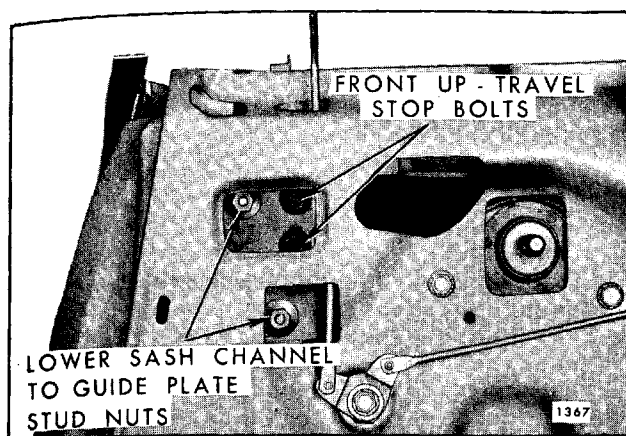

Fig. 7-140—Rear Door Window Removal - 68069-68169 Styles
4. While supporting glass by pressing it rearward into ventilator division channel, remove lower sash channel to guide plate attaching nuts (Fig. 7-140).
2. To adjust door window fore-or-aft, loosen guide plate to lower sash channel attaching nuts (Fig. 7-140). Adjust window fore-or-aft as required and tighten nuts.